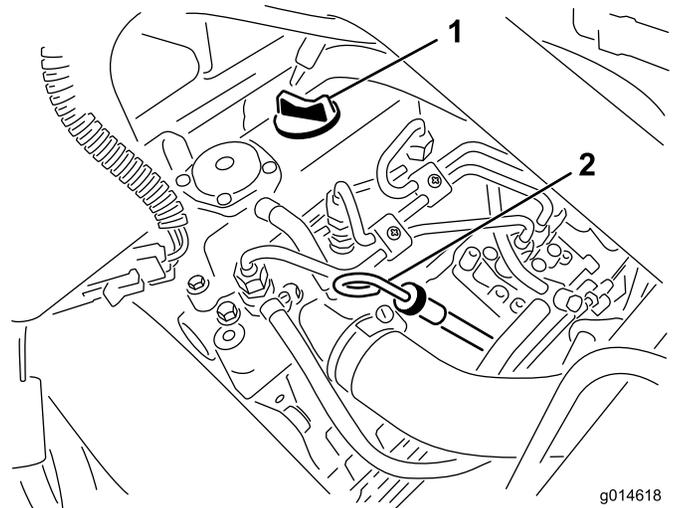

Figure 28
2. Remove the dipstick and wipe it with a clean rag (Figure 28). Push the dipstick into the tube and make sure it is seated fully. Remove the dipstick from the tube and check the level of oil. If the oil level is low, remove the filler cap from the valve cover and **slowly** add enough oil to raise the level to the Full mark on the dipstick. Add the oil slowly and check the level often during this process. **Do not overfill.**